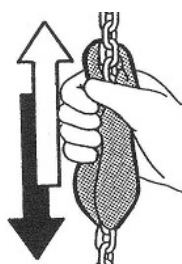

fig.88
7. Dry the entire length of the chain with clean cloths. (fig.88)